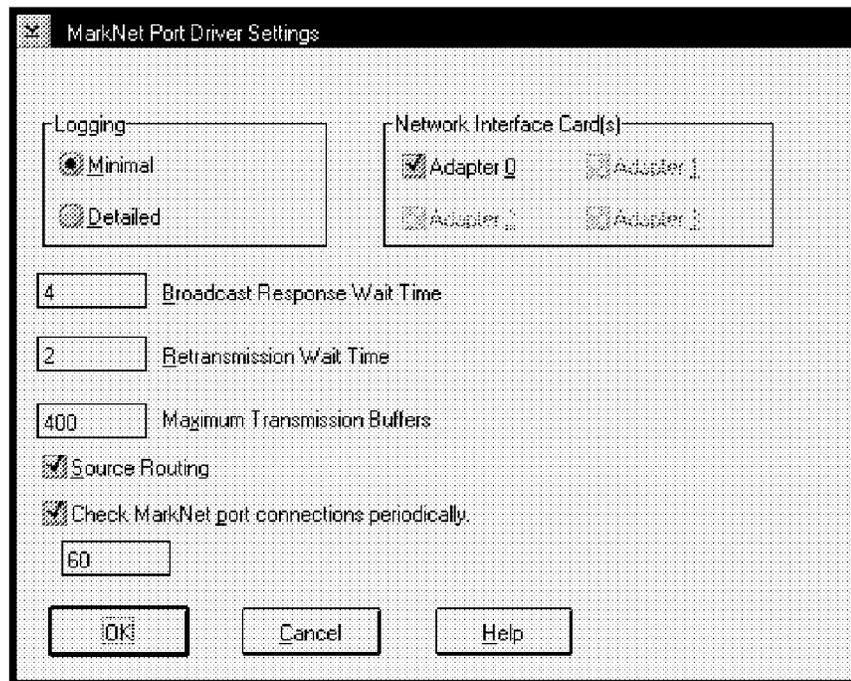

Figure 196. MarkNet Port Driver Settings Window
1. On the MarkVision window, click on **Install MarkNet port** on the Utilities pull-down menu. The MarkNet Port Driver Settings window shown in Figure 196 will open.
The Adapter Information page shows details about the selected adapter. The Port Driver Options page has the same information shown in Figure 196 on page 259.